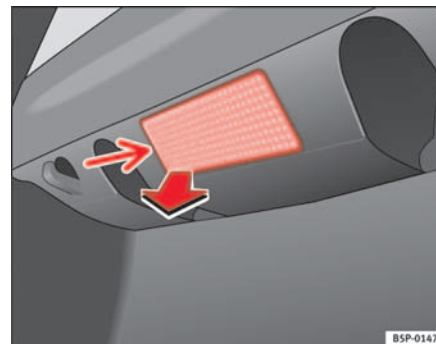

Fig. 192 Luggage compartment light
- Extract the tulip shaped fitting by pressing on the inside edge of this -arrow- using the flat side of a screwdriver ⇒ fig. 192. ►